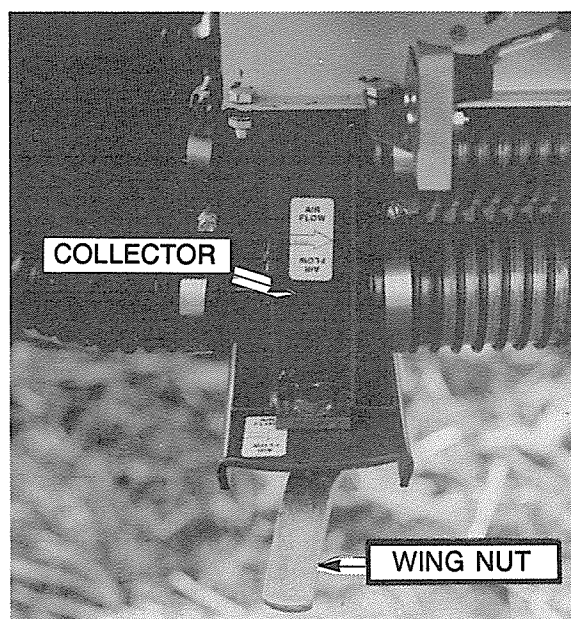

Figure 28 - Collector Bottom
- (b) Remove the Wing Nuts. (See Fig. 28).
- (f) Turn the crank until material begins to fall through the collector body. (See Fig. 28).
**NOTE:** Arrow directions on the collector **bottom** must point in the same direction as the ones on the collector **body**. (See Fig. 28). On newer models, the collector bottom can only be assembled one way.